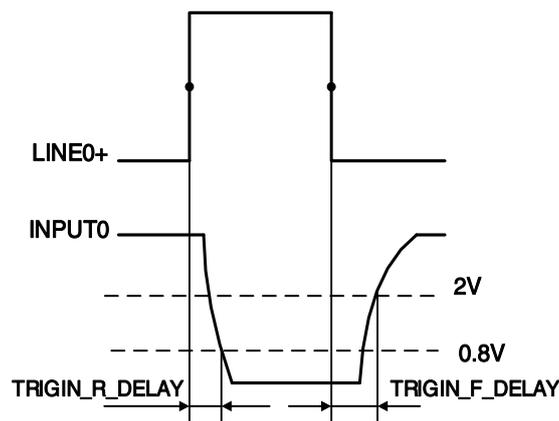

Figure 7-10 Parameter of opto-isolated input circuit
- Rising edge delay: <math><50\mu\text{s}</math> ( $0^{\circ}\text{C}\sim 45^{\circ}\text{C}</math>), parameter description as shown in Figure 7-10$
- Falling edge delay: <math><50\mu\text{s}</math> ( $0^{\circ}\text{C}\sim 45^{\circ}\text{C}</math>), parameter description as shown in Figure 7-10$